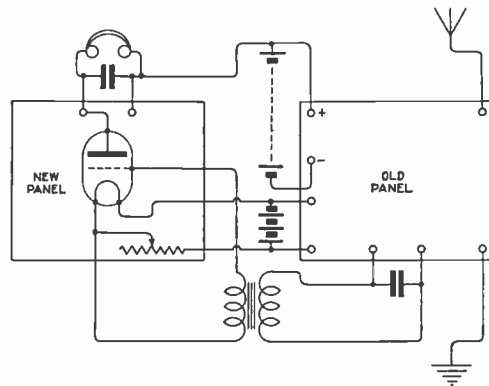
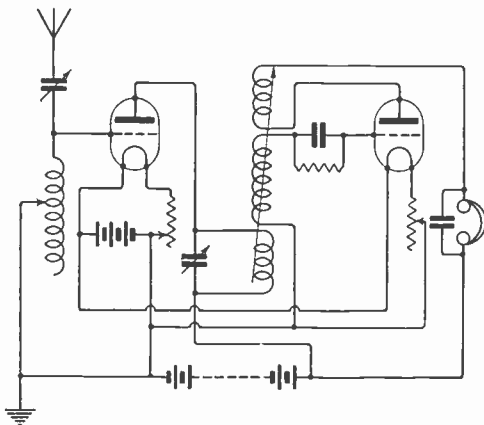

Fig. 3.
Fig. 5.
(1) You apparently wish to use a frame aerial set. If so, coils may be used to load up the frame, as many as required at any time being connected in series with it. The arrangement would not be very efficient, and we do not recommend using these coils at all. (2) Wind about 120 turns of No. 28 in a single layer on a former of the required size with tapings at 3, 6, 15, 30 and 60 turns. (3) See Fig. 3, page 31, April 1st issue. The range would be about 8,000 metres, with a 0.002 mfd. condenser.
"S.W." (Portsmouth) asks how to add an amplifying panel to his present single valve panel. See diagram Fig. 3.
"W.G." (Hastings).—(1) Circuit shown is quite correct. Wavelength maximum probably about 3,500. (2) See Fig. 5, page 124. (3) The telephones may be used without change. (4) Circuit should be efficient at all wavelengths.
(1) and (2) We cannot say, but we should imagine that no steps would be taken to prohibit the use of such an excellent property as reaction in receiving circuits, though every effort should be made to prevent the use of circuits in which the reaction coil is coupled back directly to aerial inductance. Reradiation is reduced by adopting intervalve H.F. coupling and arranging the reaction between grid and plate circuits of the second valve. See circuit Fig. 5. (3) See circuit Fig. 3, page 436,
or Fig. 5, page 437, July 1st issue, omitting reaction coil in each case. (4) Without going deeply into your figures we would point out that any calculations of this nature are perfectly useless with regard to the determination of the values of loading inductances for use in amateur circuits. For instance, without calibrated apparatus it is not easy to determine the capacity or inductance of an aerial, but is comparatively simple to conduct a few experiments to find the amount of wire necessary to load to a given wavelength.
(1) The only easy way would be the addition of a note magnifier, as in Fig. 2, page 336, but a new set on the lines of Fig. 5, page 124, would give much better results. (2) You should get stations as in question 4, with the altered set. There is probably very little to be got at present. (3) The set and aerial are of somewhat poor quality. You are not likely to get strong signals on a crystal in your district. (4) Birmingham and Manchester will be the nearest stations, neither of which you are likely to get very strongly on a crystal set.